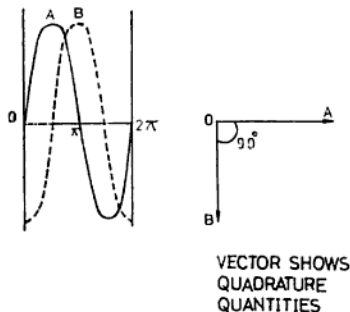

Fig. 11.5: Quadrature quantities
**Quadrature Quantities** When the phase difference between two alternating quantities is  $90^\circ$  electrical they are said to be *quadrature quantities* as shown in Fig. 11.5.